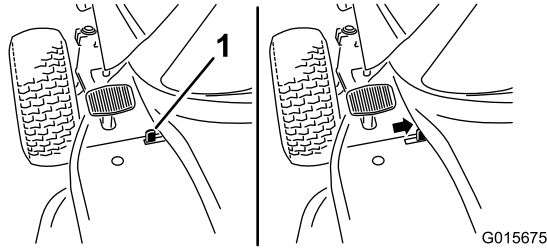

Figure 7
- For machines with a parking brake switch: Slide the parking brake switch over (Figure 7) and gradually take your foot off the brake pedal.